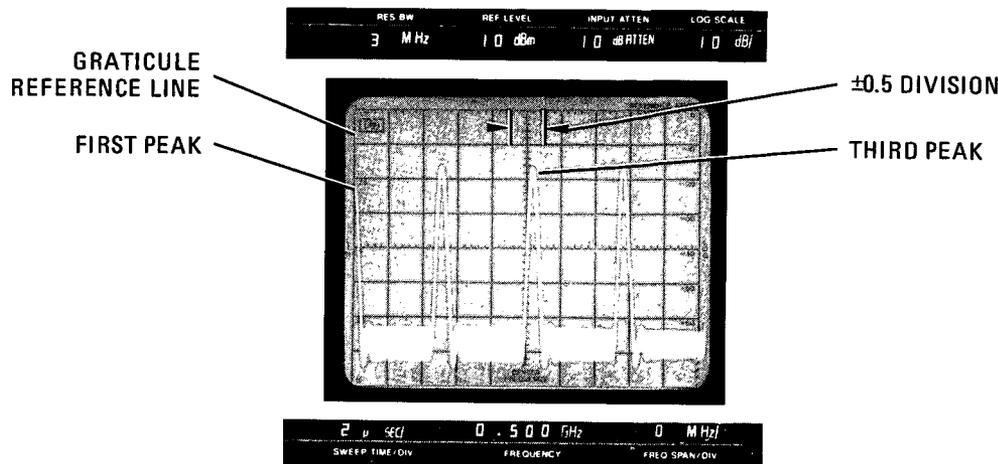

Figure 4-22. Sweep Time Accuracy, 2μ SEC/DIV
- f. Adjust TRIGGER LEVEL so the first peak is at the graticule reference line (see Figure 4-22). The third peak should be at the center graticule line \pm 0.5 division (\pm 10%).